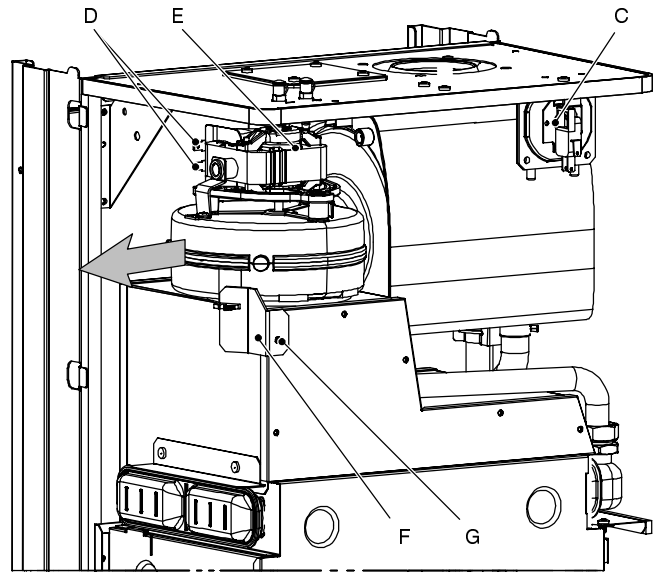

Fig. 77
- 4 Unscrew the screw *F* and remove the bracket *G* (Fig. 77).
- 5 Remove the Fan by sliding it towards left (se the arrow in Fig. 77).